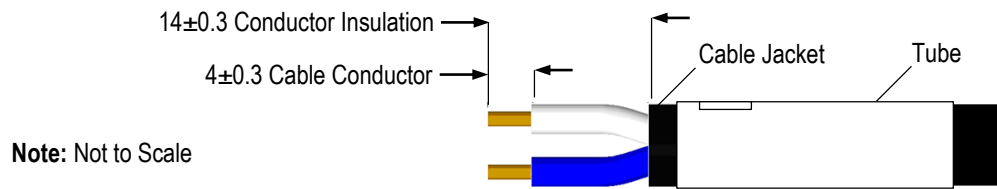

Figure 2
2. The cable must be stripped to the dimensions given in Figure 2.